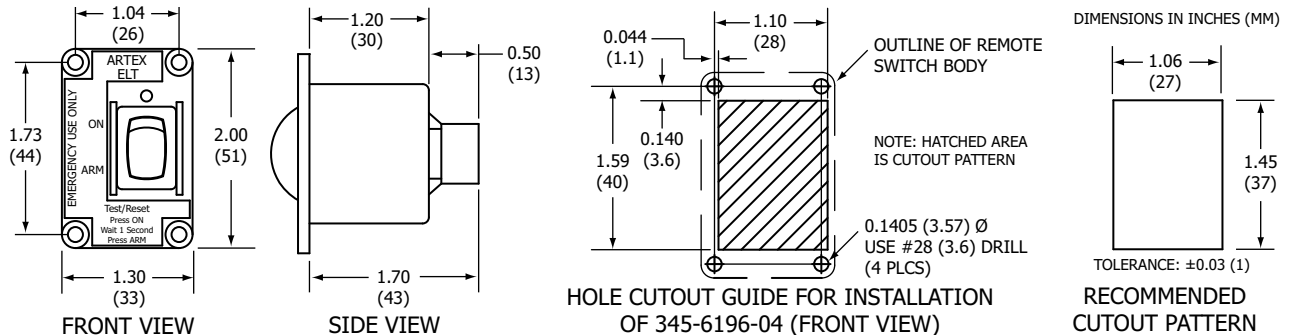

Figure 18. Remote Switch Outline and Dimensions
- (1) Select a suitable location for the remote switch assembly.
- (2) The switch assembly must be mounted in the cockpit where the pilot can easily reach the switch and see the LED.
- (3) The switch assembly requires a space approximately 2.0 x 1.3 in. (51 x 33 mm) on the panel surface and behind the panel. See "Figure 18. Remote Switch Outline and Dimensions".
- (1) Mark the cutout on the cockpit panel. See "Figure 18. Remote Switch Outline and Dimensions".
- (2) Fit the switch assembly into the cutout and mark the four screw holes, then remove the switch.
- (3) Drill the screw holes with a #28 or 3.6 mm drill.
- (4) Install the switch assembly using the 4-40 x 1/2 in. pan head screws, nuts and lock washers provided in the remote switch installation kit (455-6196).